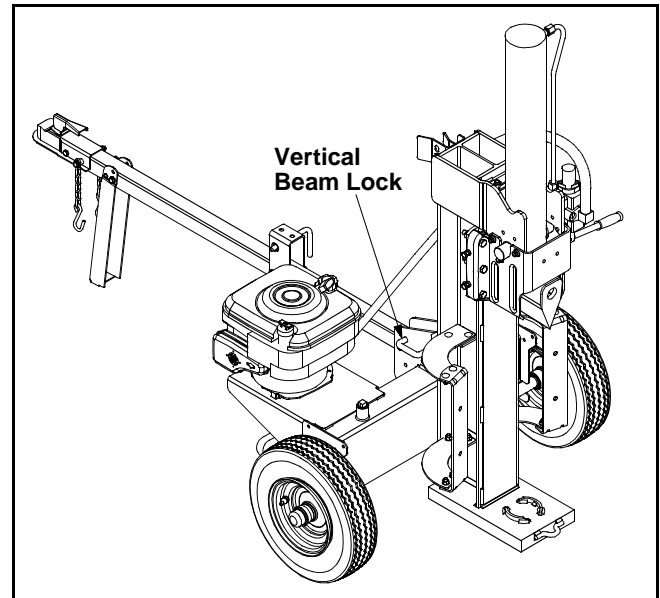

Figure 8
- To lock the beam in the vertical position, pull out on the vertical beam lock and pivot it to secure the beam. See Figure 8 or illustrated parts on p16.